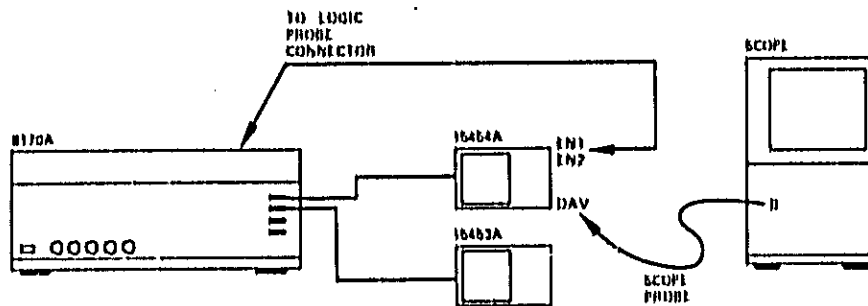

Figure 4-3 Test Setup for DAV/EN Function Test
6. Connect the equipment as shown in Figure 4-3.